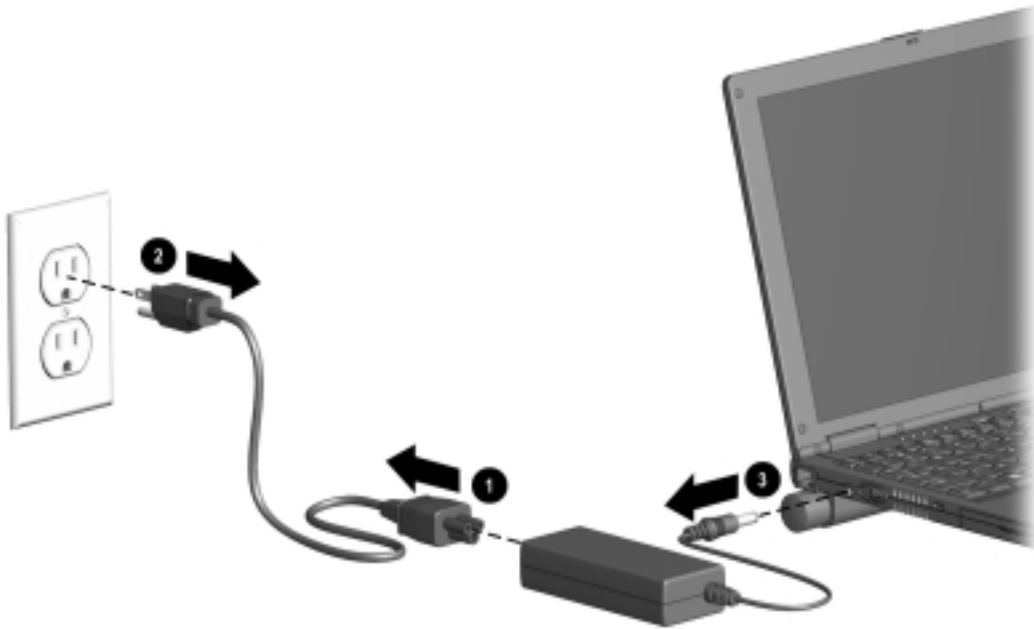

Figure 5-4. Disconnecting the Computer
1. Disconnect the AC power cord from the AC adapter ❶ (Figure 5-4).
2. Unplug the power cord from the electrical outlet ❷.
3. Disconnect the AC adapter from the power connector on the left side of computer ❸.